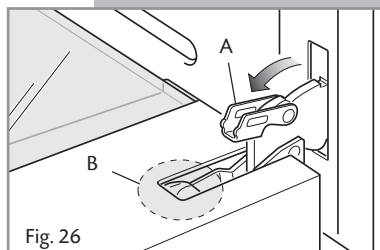
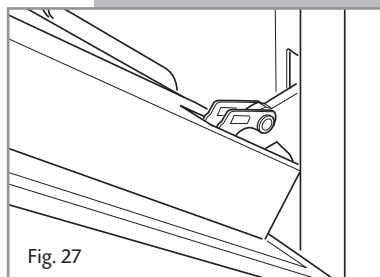

Fig. 26
Fig. 27
- Fully open the lever A on the left and right hinges (Fig 26).
- Gently close the door (Fig. 27) until the left and right hinges are hooked to part B of the door (Fig. 26).
1. Make sure the door is locked open (see fig. 27).